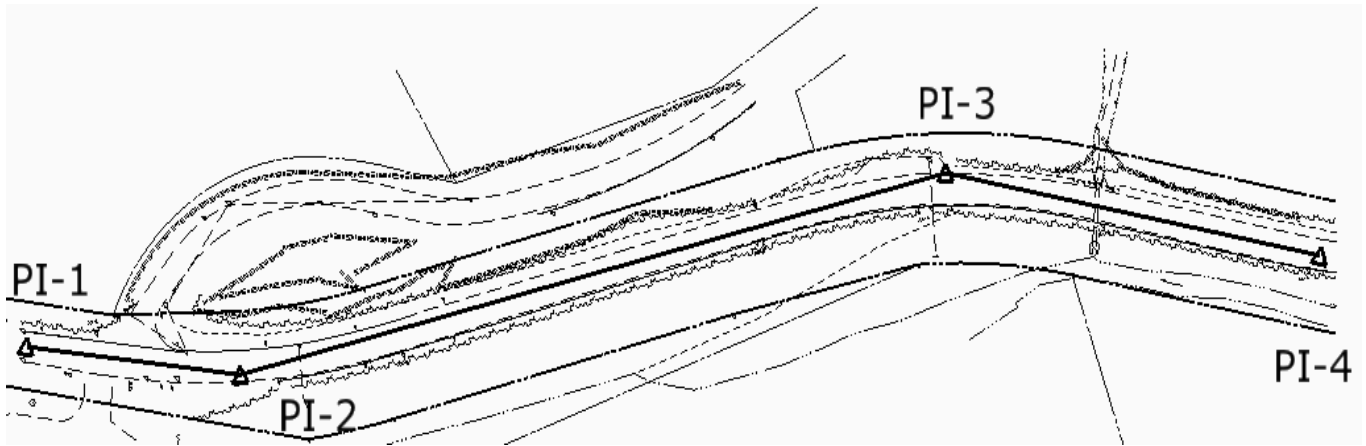

Figure 4-1 MicroStation View of an InRoads Generated Alignment
Proper engineering design of roadways is important and should follow state and federal guidelines. The Connecticut Department of Transportation Highway Design Manual and the AASHTO Geometric Design of Highways and Streets are the main sources for Engineering Design References. For most standard CTDOT roadway designs, the PI method is most often used for the layout of horizontal geometry. This method involves identifying the horizontal tangent line at the Point of Intersection (PI). The original ground survey drawing is used as a reference for locating existing geometry tangents and PIs to tie in to. Figure 4-1 shows an example of three (3) tangent lines defined by four (4) PIs. PI-1 defines the Point of Beginning (POB) on this alignment, while PI-2 and PI-3 are true points of intersection; PI-4 defines the Point Of End (POE). These four points were defined using the insert PI command. Note: This next lab (Lab 5) will focus on the basic InRoads tools used to layout horizontal control geometry.